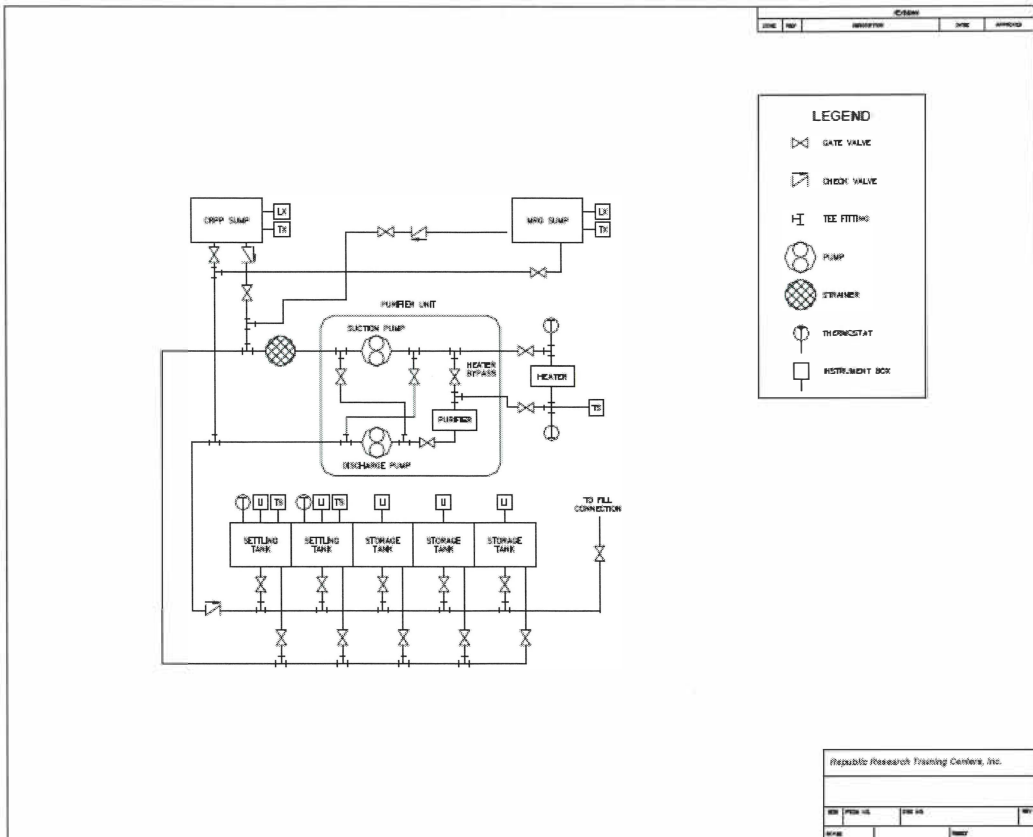

Figure 12–26
4. In Paper Space, add a Legend on the right side of the sheet, and include the symbols used in the diagram and their descriptions, as shown in Figure 12–26.